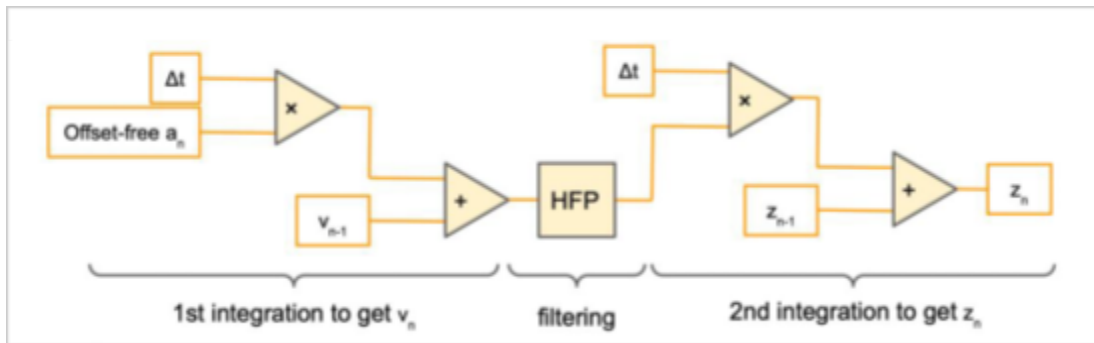

Figure 3. Recommended integration scheme to achieve drift-free position (z_n).
where a_n is the offset-free acceleration, and v_{n-1} is the velocity that was stored in the shift register during the last loop iteration (Figure 3).
7. As shown in Figure 3, add a **point-by-point Butterworth high-pass filter** before the 2nd integration (Go to Signal Processing > Point by Point > Filters > Butterworth).